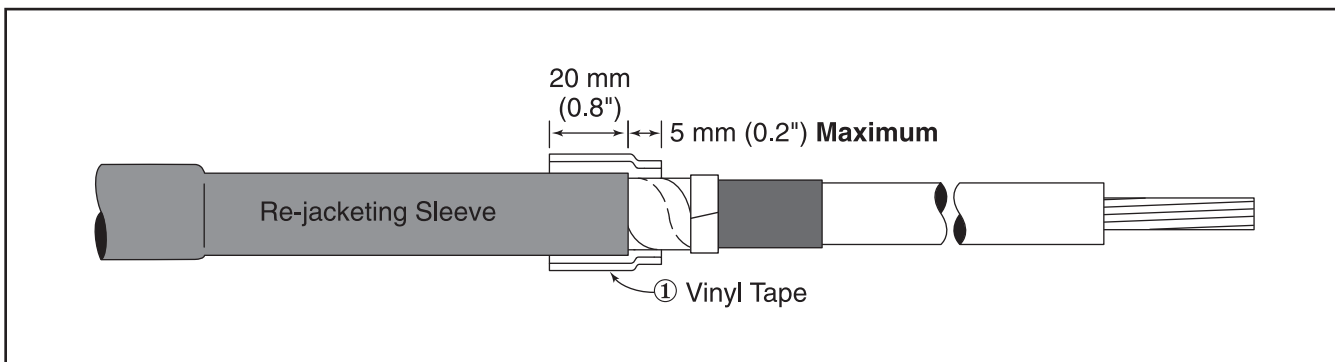

Figure 11
5.3 Secure re-jacketing sleeve with two half-lapped layers of vinyl tape (Figure 11). Start taping 0.8" (20 mm) over re-jacketing sleeve, extend 0.2" (5 mm) over cable metallic shield and return to starting point.